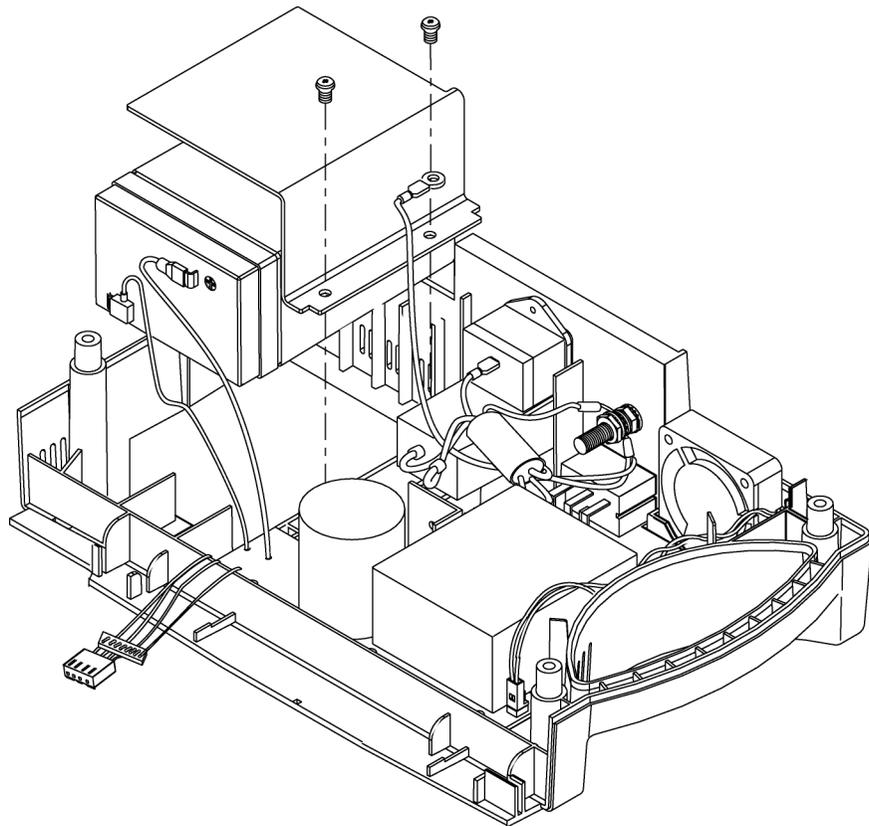

Figure 7: Removing the Battery
2. Remove the two screws from the battery bracket and lift the battery out of the bottom case as shown in Figure 7.